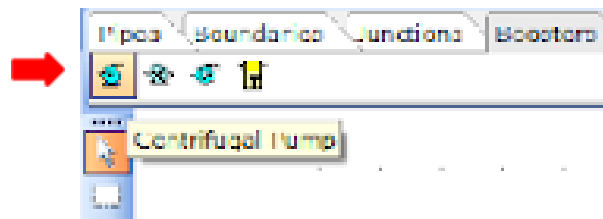

Figure 4: Centrifugal Pump Icon.
- This represents our pipe boundaries. We can now add our fluid motive device by selecting the desired booster from the Component Palette. In this design case, let us select the centrifugal pump from the *Component Palette* (Figure 4).